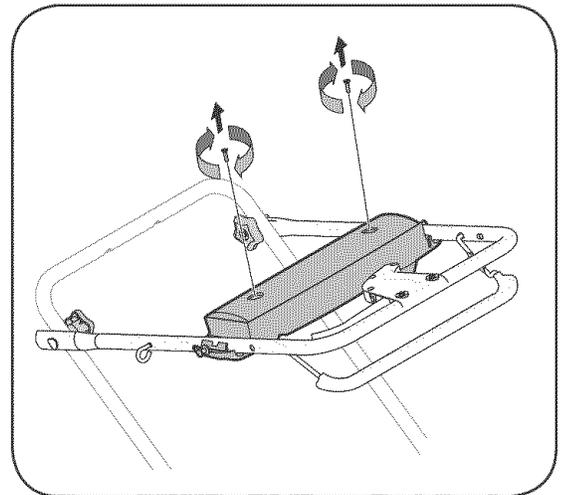

Figure 5-3: Fold down upper handle and remove two screws from back of housing.
1. Open the battery cover as described in **Replacing Battery**, see Figure 5-3.